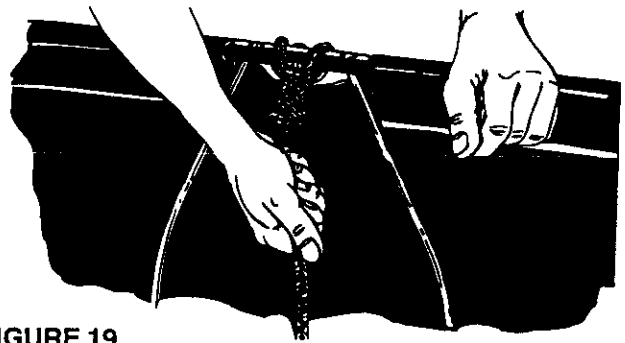

FIGURE 19
- Secure the rope to the top center of the hopper bag frame as shown in figure 19.